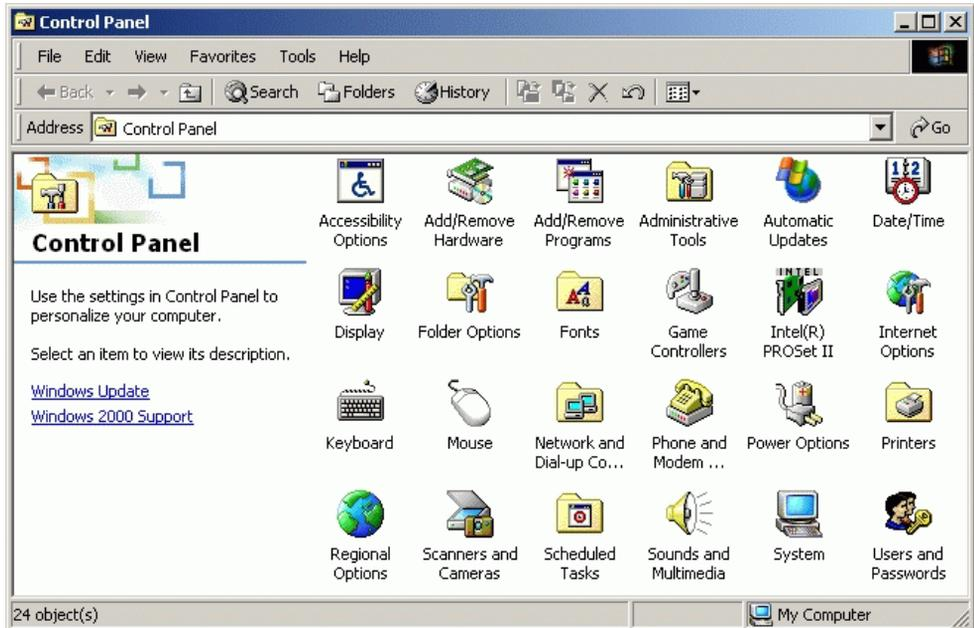

Figure 14 Control Panel Window
1. At the Windows 2000 desktop, click *Start* at the left side of the task bar (bottom of the desktop), then select *Settings*, then *Control Panel*. The *Control Panel* window displays (Figure 14).